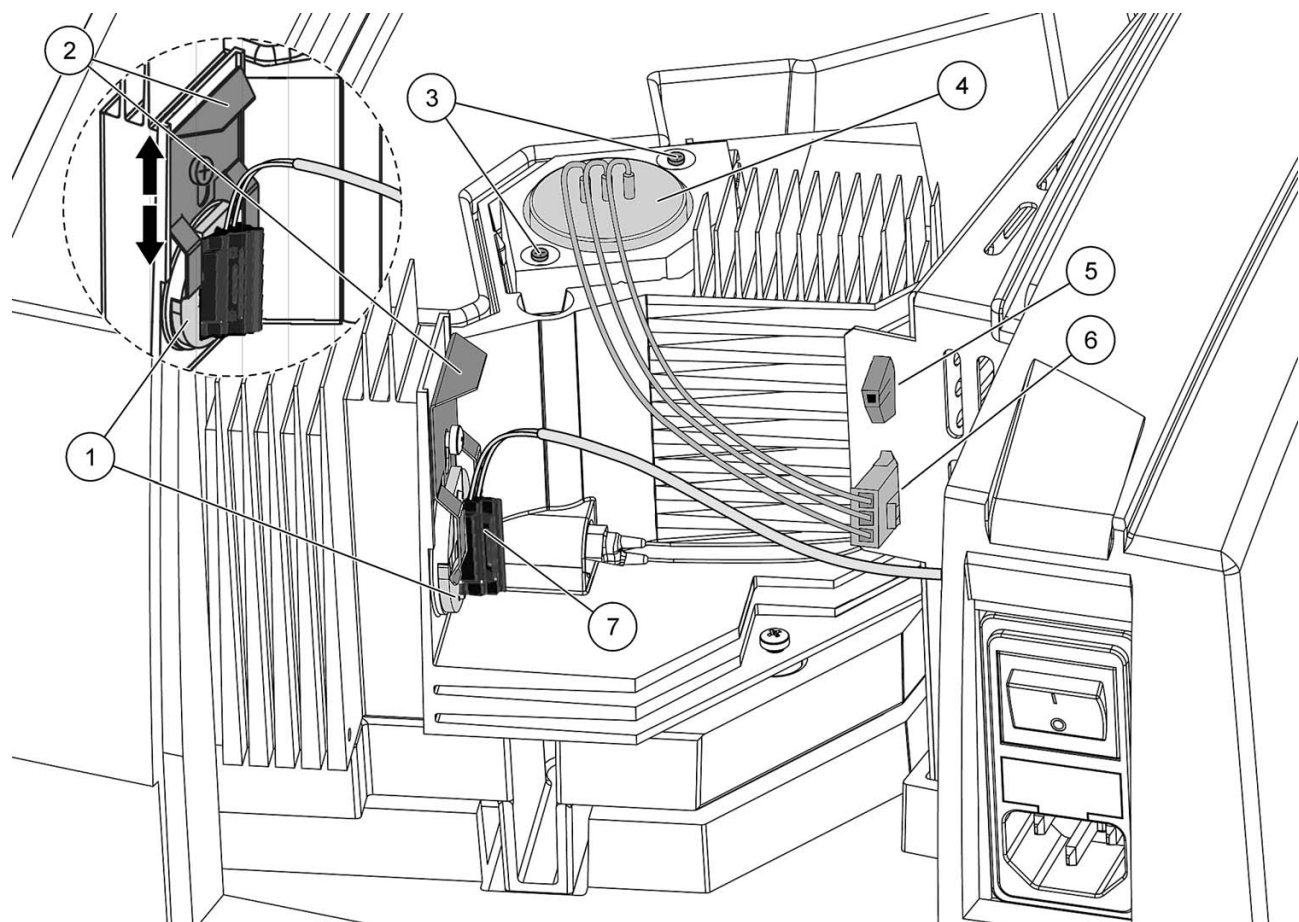

Figure 8 Lamp compartment
Refer to section 7.2.1 on page 122, section 7.2.2 on page 123 and Figure 8 on page 124 for instructions on replacing the tungsten lamp and deuterium lamp (UV).
5. Push the spring (Figure 8 on page 124, item 2) up and remove the tungsten lamp (Figure 8, item 1) from the lamp compartment.
6. Unplug plug contact (Figure 8, item 7) from the tungsten lamp.
5. Unplug the deuterium lamp (Figure 8 on page 124, item 4) from the socket by pushing down on the safety contact.
6. Use a screwdriver to unscrew the two fastening screws (Figure 8, item 3) (the screws may be slotted or cross-headed) out of the socket.